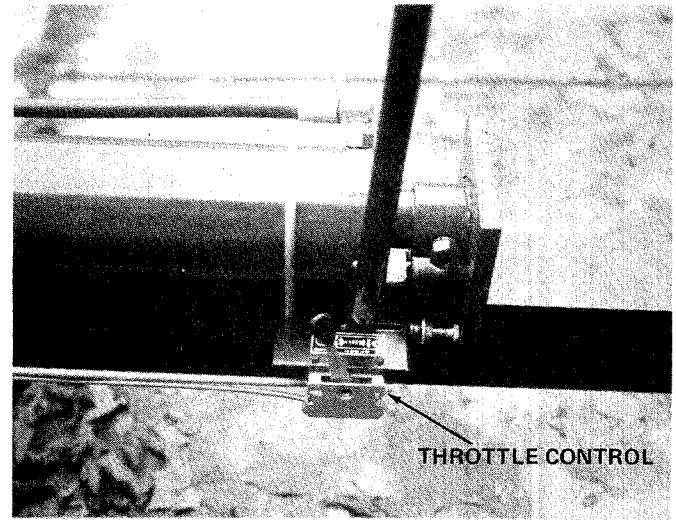

FIGURE 17
1. Place throttle control lever (on beam) in run position. See figure 17.
- Move throttle control lever to STOP position. See figure 17.